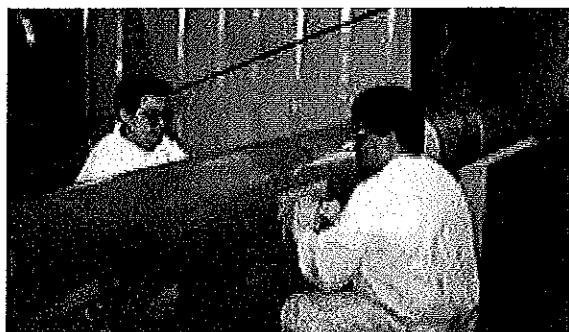

Figure 10
- 4.9 Remove the parting film (backing) from the starter pad and secure the leading edge of the Clock Spring® sleeve to the pad. Tap the composite sleeve onto the starter pad and ensure that it is anchored firmly to the pipe (Figure 10). Check that the sides of the Clock Spring® are 90° to the pipe axis and aligned with the reference mark created in Section 4.4.